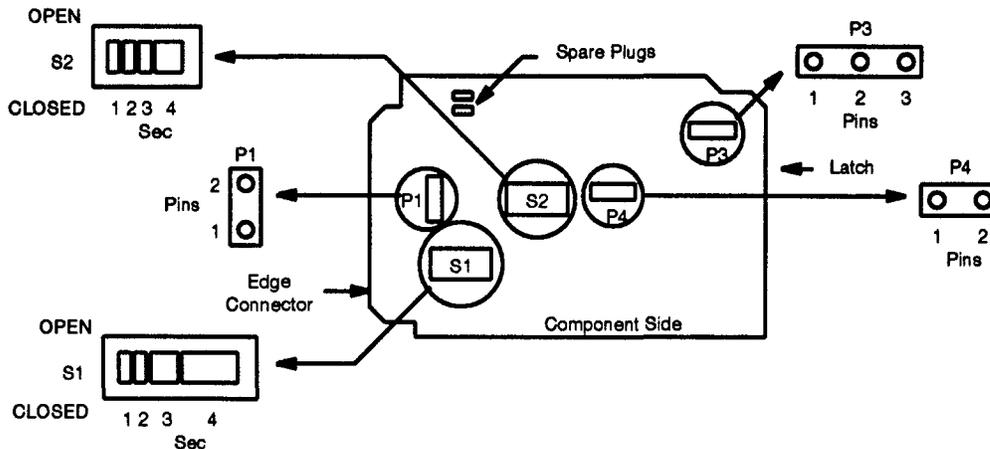

Figure 2. MXR2 (AKM2B)/MXR3 (AKM2C) OPTION SETTINGS
18. Refer to **Figure 2** and set the option switches on the **AKM2B MXR2** or **AKM2C MXR3**.
20. Refer to **Figure 2** and install the option plugs on the **AKM2B MXR2** or **AKM2C MXR3**.